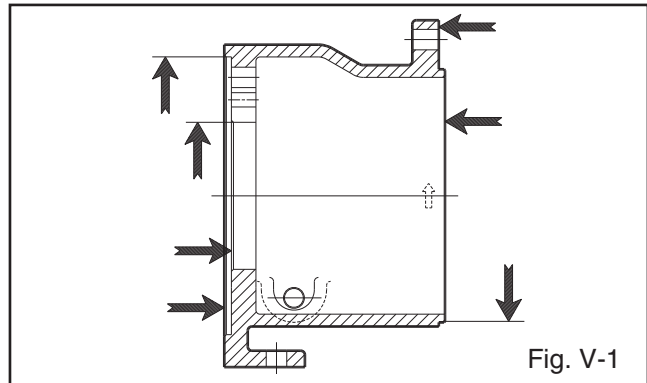

Fig. V-1
1. Visually inspect the C-face adapter (340) for cracks. Check surfaces for rust, scale, or debris. Remove all loose or foreign material (Fig. V-1).